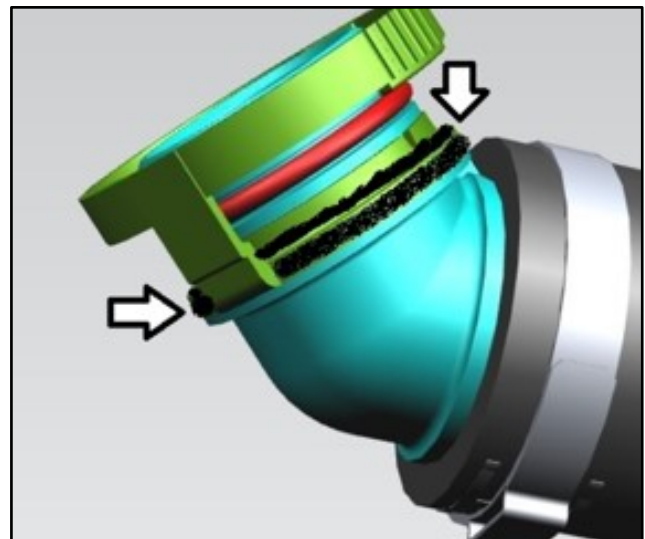

Figure 7
8. Apply LOCTITE 480 to the hose clamp in the positions shown (refer to Figure 7).